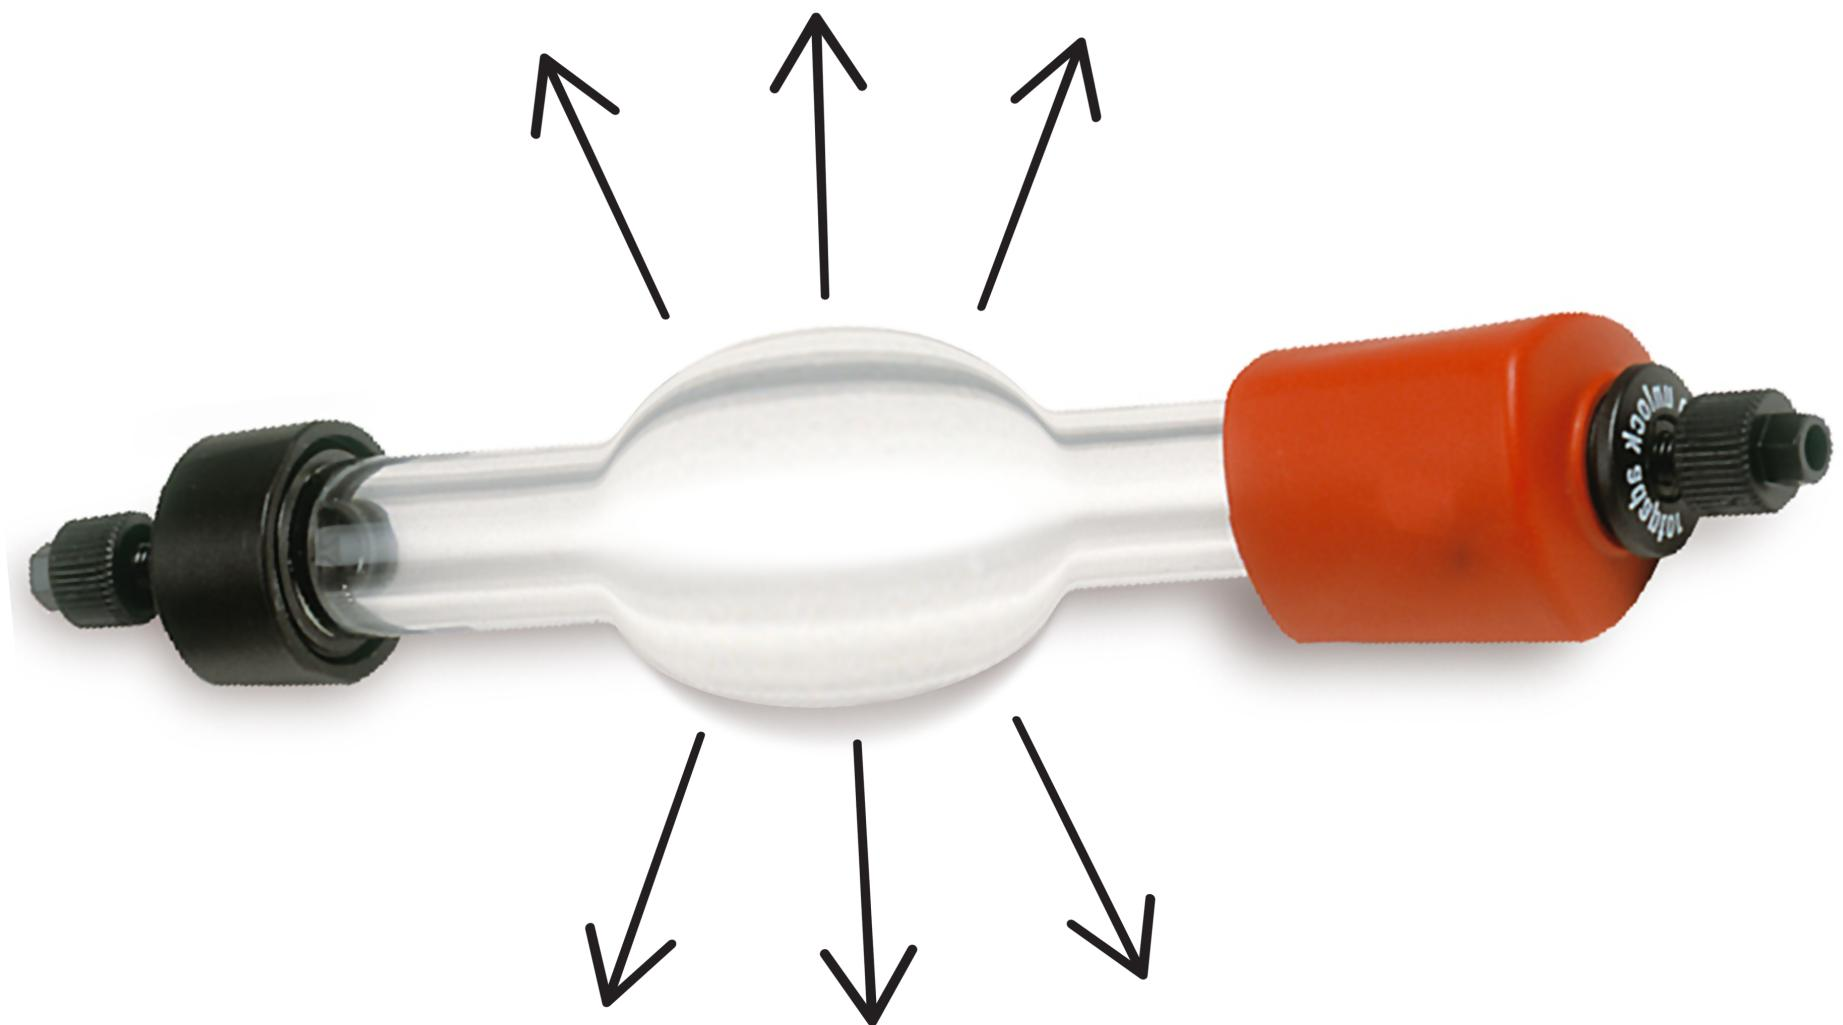

Fig A4.1. The column hardware pressure limit is the maximum pressure the column hardware can withstand without damage.
1. Column hardware pressure: The column hardware pressure limit is the maximum pressure the hardware can withstand without being damaged (Fig A4.1). This value is fixed for each column type. The column hardware pressure limit for each column type is included in the column instructions and in the UNICORN column list, in ÄKTA systems.